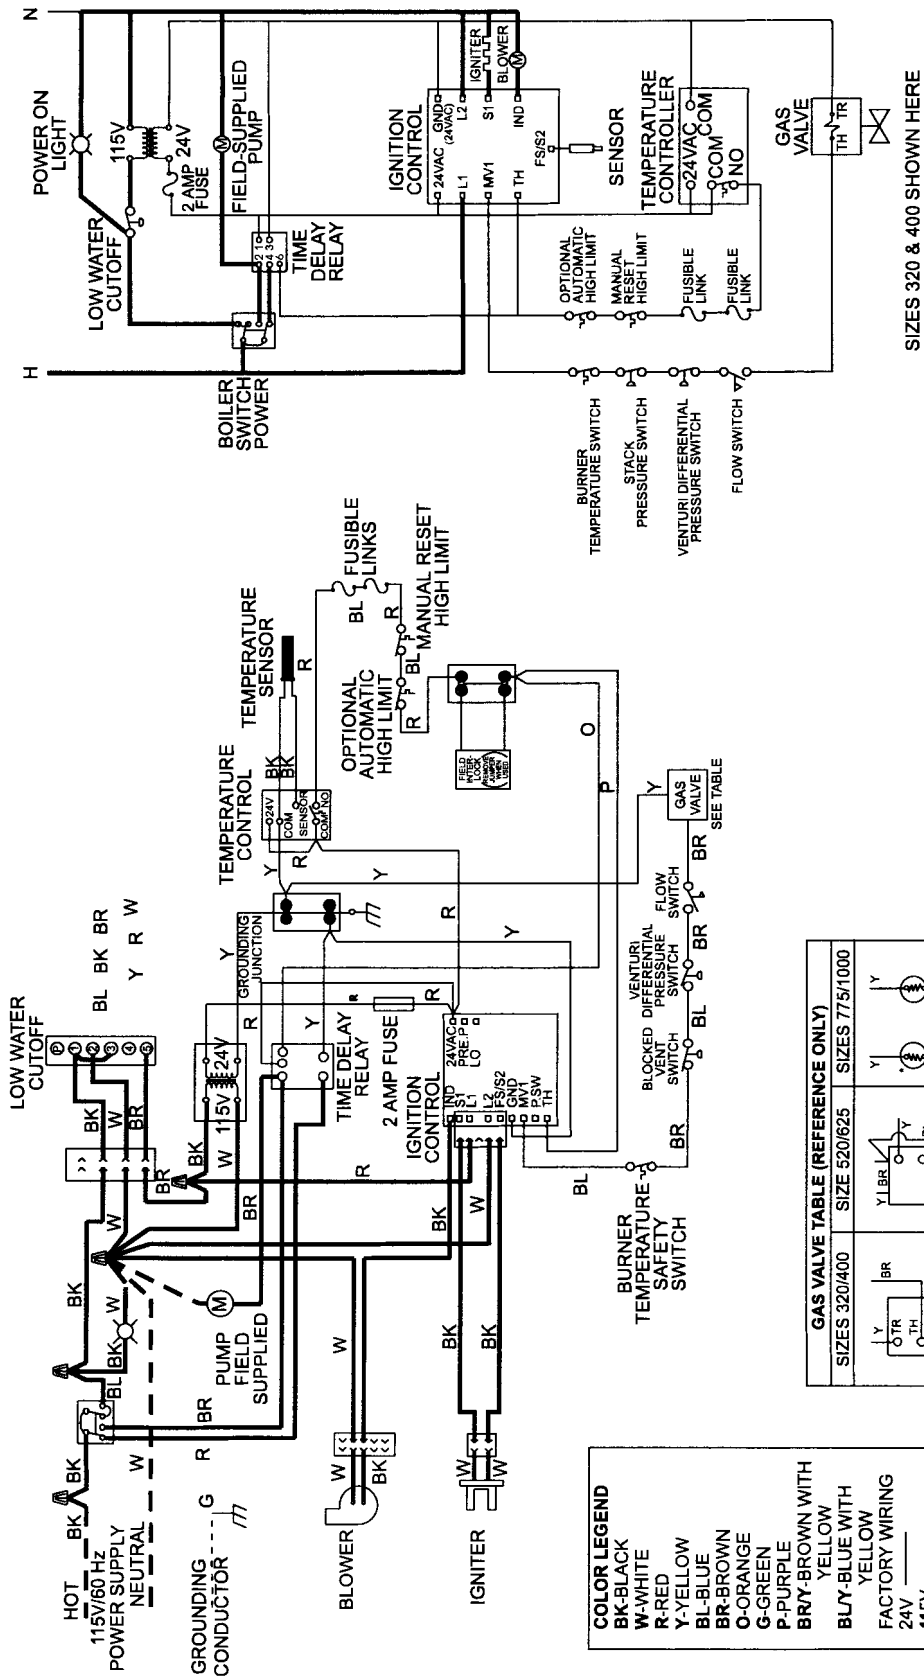

Figure 11. Wiring Diagram.
2. Wire the heater and pump exactly as shown in the wiring diagram supplied with the heater (see Figure 11).
4. Connect all field-installed devices (relays, timers, temperature devices, etc.) to the heater wiring at points labeled "Field Interlock" (see Figure 11).